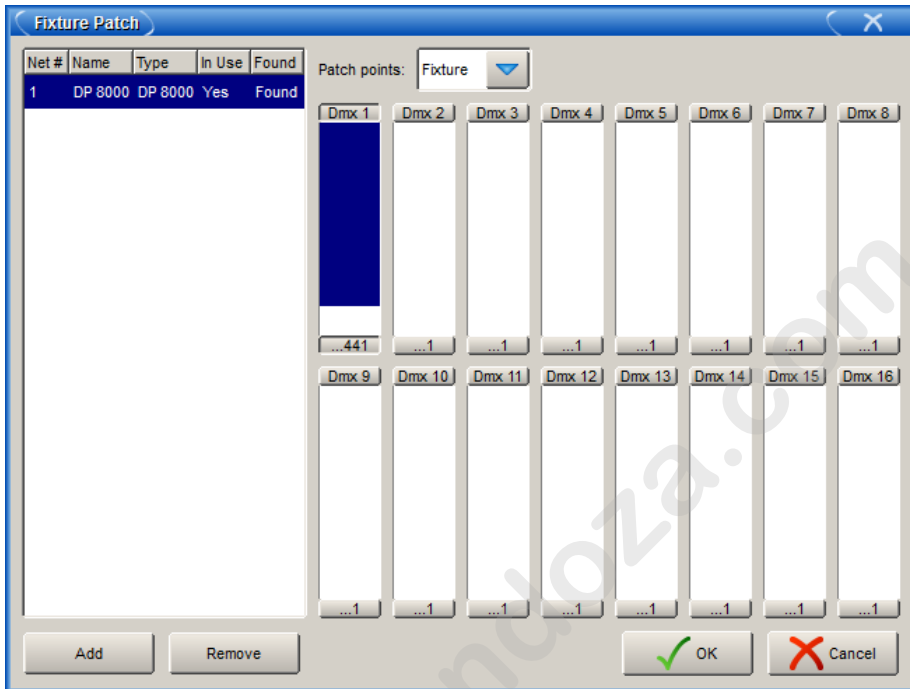

Figure 7.1. The Fixture Patch Window
3. In the Fixture Patch window, check that DMX Processor 1 is highlighted, and its first Universe is selected; *Figure 7.1, “The Fixture Patch Window”*.